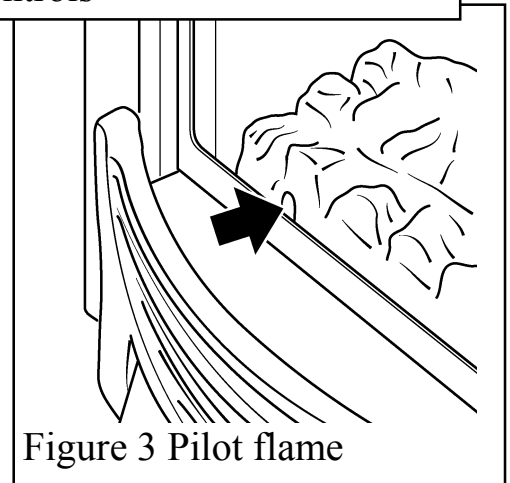

Figure 3 Pilot flame
- Push in the right control knob (the pilot lighting knob) and, while keeping it depressed, turn anticlockwise through the ignition position marked ☆ and up to the pilot position marked ●. The spark should light the pilot. The pilot flame can be seen by looking through the gap near the left side of the coal front (See figure 3).